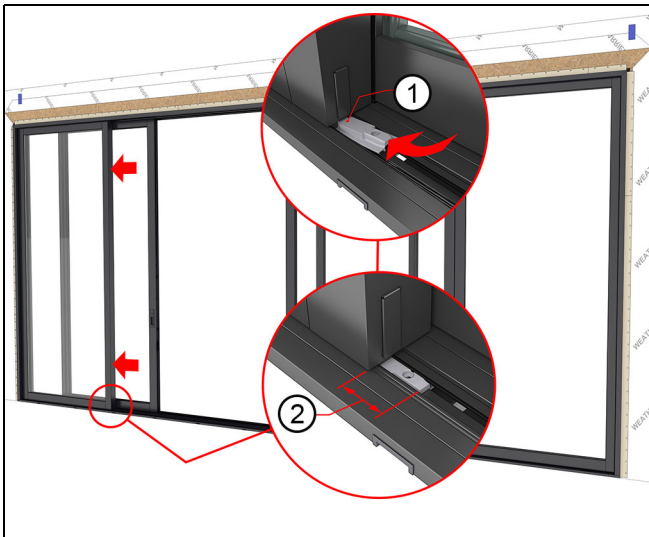

Figure 143
13. Snap the lower stationary bracket onto sill, then slide underneath the (C-L) stationary panel until fully seated. The bracket should stick out approximately 2 1/4" (57) from panel when fully seated. Do not fasten the bracket until all the panels are installed and adjusted. See Figure 143.